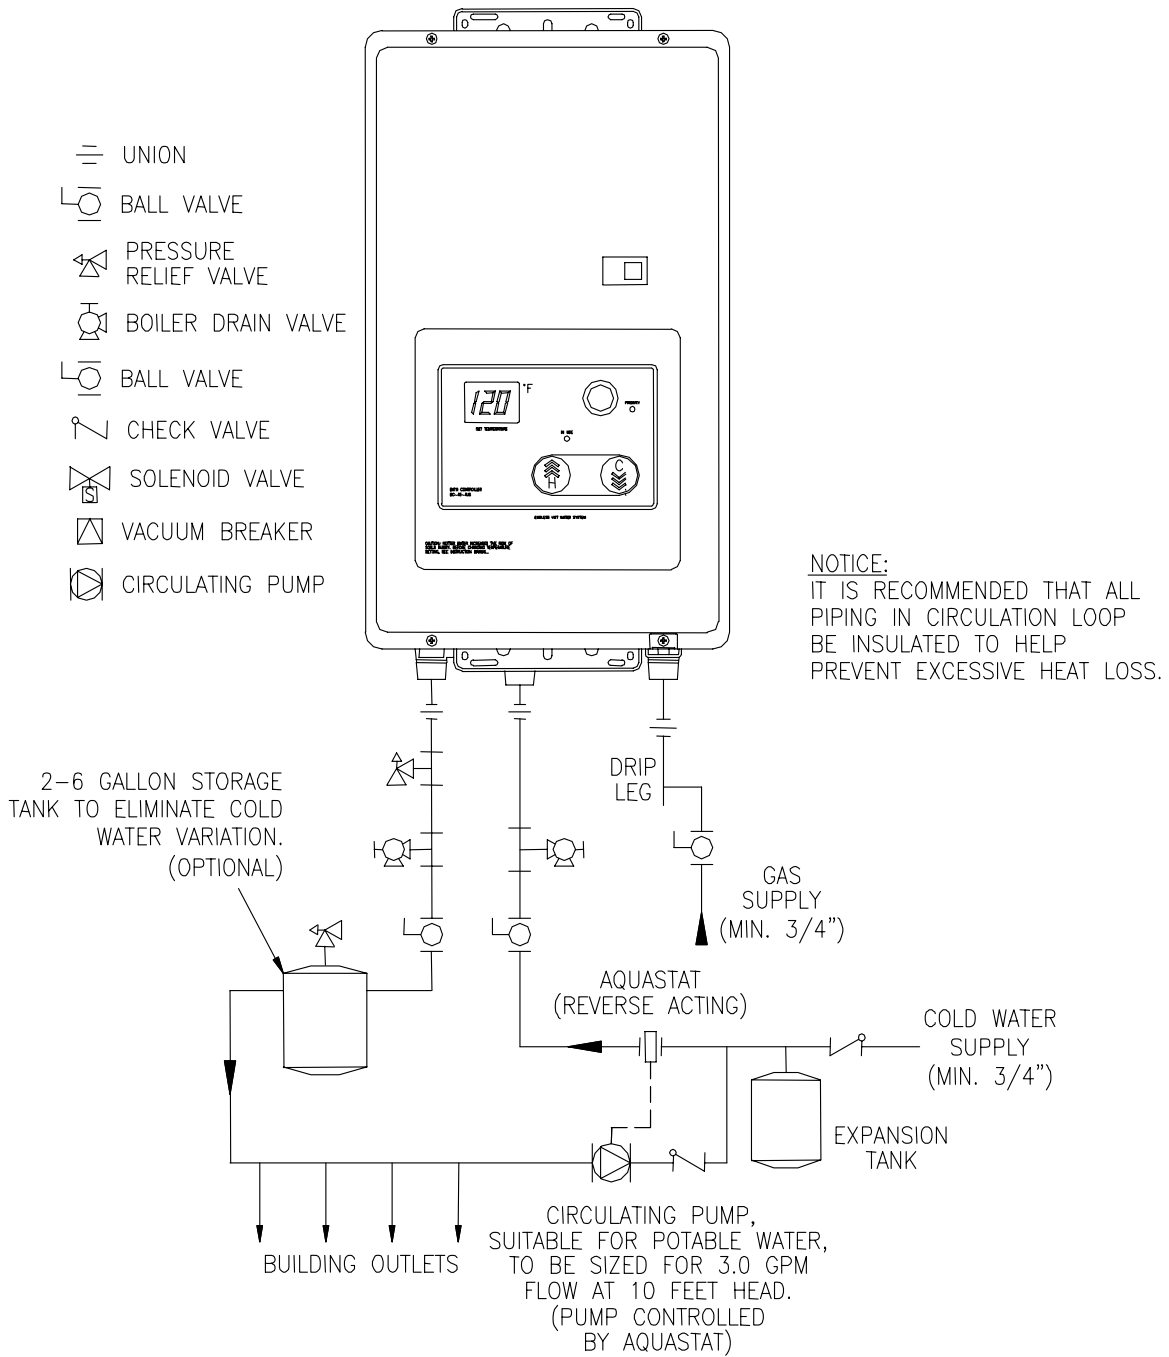

Figure 3
8. This water heater may also be connected to a circulating pump or storage tank for increased flow capacity during high demand periods. Refer to the suggested piping diagrams (fig. 3 & 5) in Section V to be used as a guide.